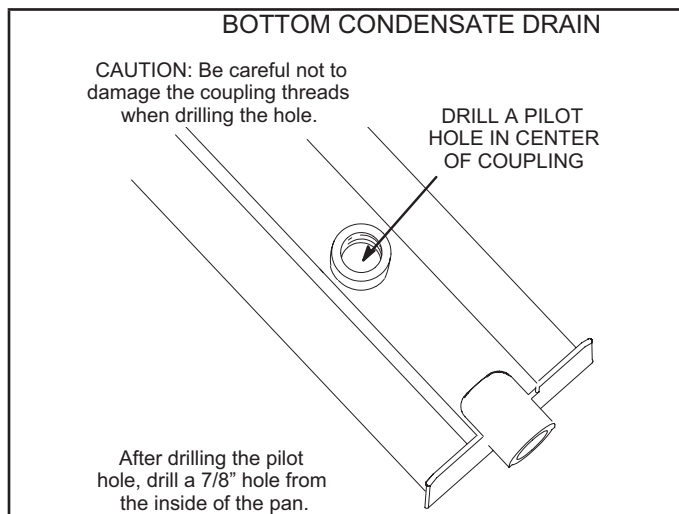

**FIGURE 9**
- 2 - Lift the front edge of the drain pan and slide pan out of unit. See FIGURE 9.